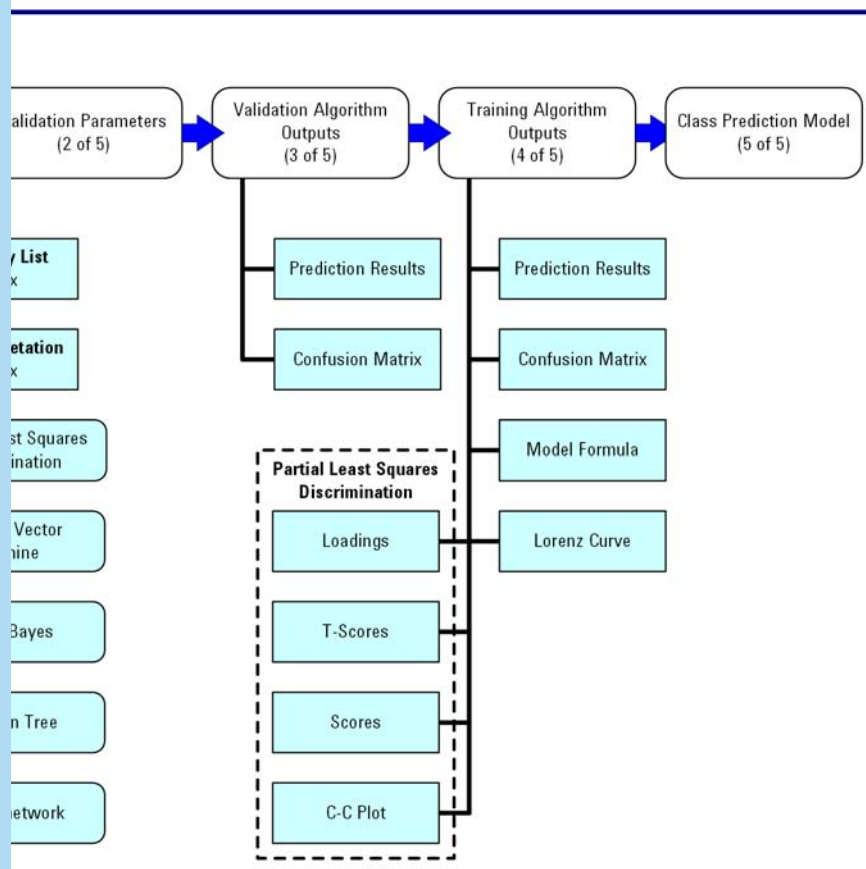

Figure 142 Flow chart of the Build Prediction Model wizard
The **Build Prediction Model** wizard has five (5) steps and involves optional dialog boxes in choosing an entity list, interpretation, and parameters for your class prediction algorithm. A flow chart of the Class Prediction wizard is shown in Figure 142.